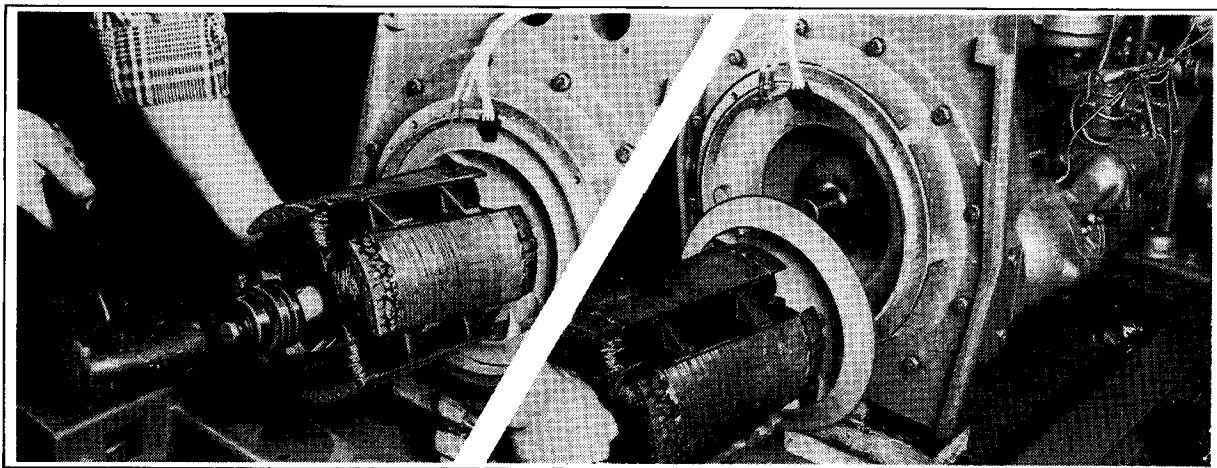

Figure 4-14. Rotor Removal
10. To remove the rotor loosen the thru bolt 2-3 turns and break the rotor loose from taper by striking the bolt head with a heavy lead mallet. If after striking bolt head the rotor can be rocked slightly back and forth in place, remove thru bolt and pull rotor away from engine. If rotor is not loose, repeat procedure. The generator fan will be removed with rotor (Figure 4-14).